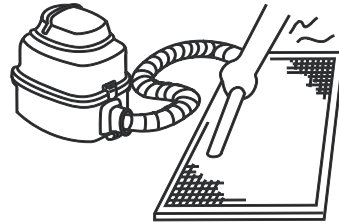

Fig.5-15
- The air intake side should face up when using a vacuum cleaner. (Refer to Fig.5-15)